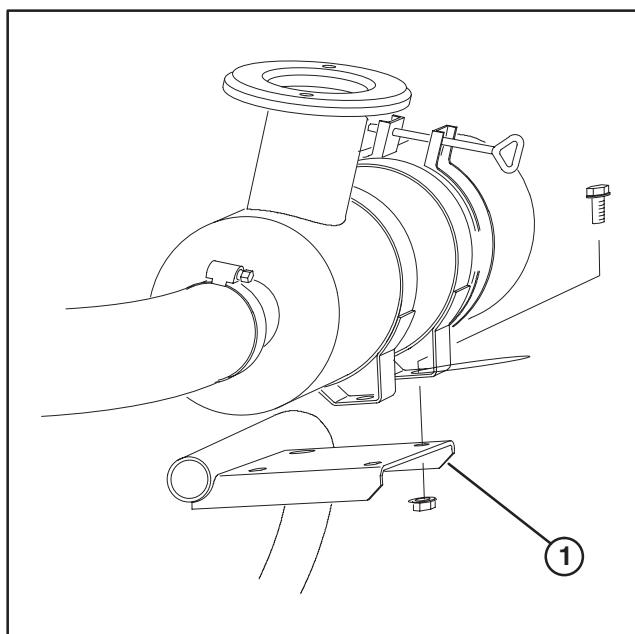

Figure 3
4. Secure air cleaner mounting bands to bracket with fasteners previously removed (Fig. 3).